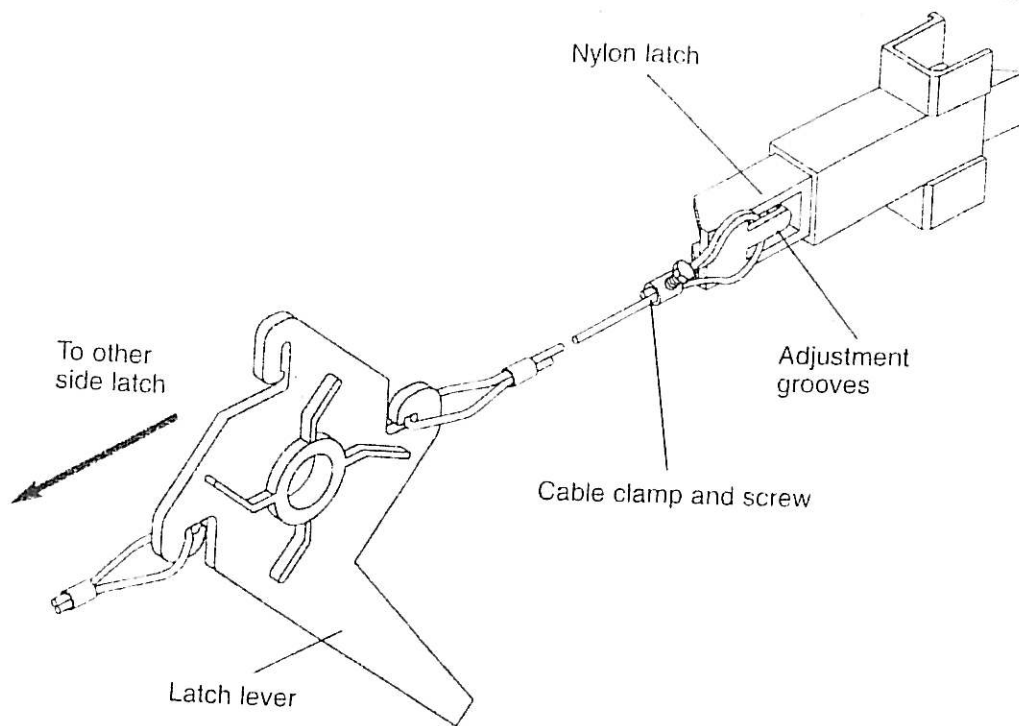

FIG 7
Take cable with double loop and attach looped end of cable (with clamp) in centre groove of nylon latch (see Fig. 7). Loop the other end of the cable over the closest arm on the internal latch lever. Repeat this operation for both side latches.
Adjustment may be necessary to ensure correct latch engagement. This can be done by either looping the cable over a different groove in the latch (see Fig. 7) or by loosening the screw on the cable clamp, moving cable slightly and re-tightening.
7. Remove top catch bracket. (See Fig. 7)